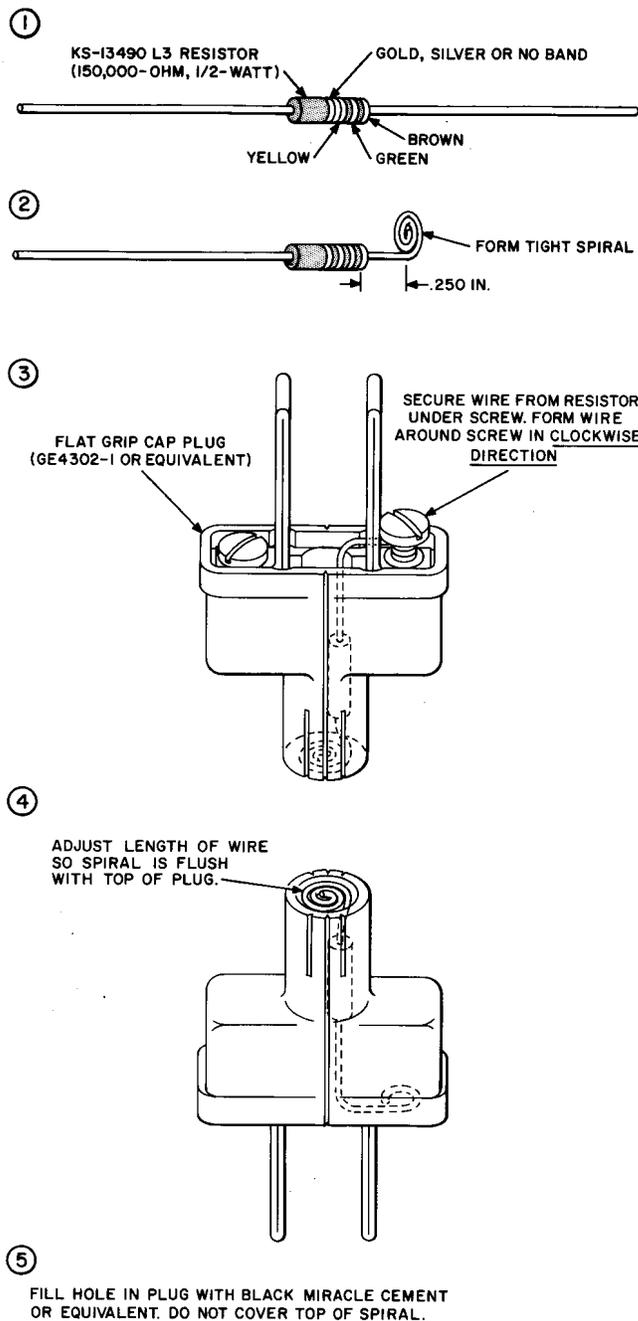

Fig. 4—Voltage Test Plug
2.04 Voltage Plug: A voltage plug is to be made up locally (Fig. 4) to provide a safe and convenient means to verify that the B-Voltage Tester is in good working order. When plugged into a standard 110-120 volt convenience outlet, it provides a voltage in series with a current-limiting resistor. As illustrated, the resistor is connected to only one prong of the plug which must be inserted into the hot side of the outlet. Normally, the hot side may be identified as being the smaller of the two parallel slots in the outlet.